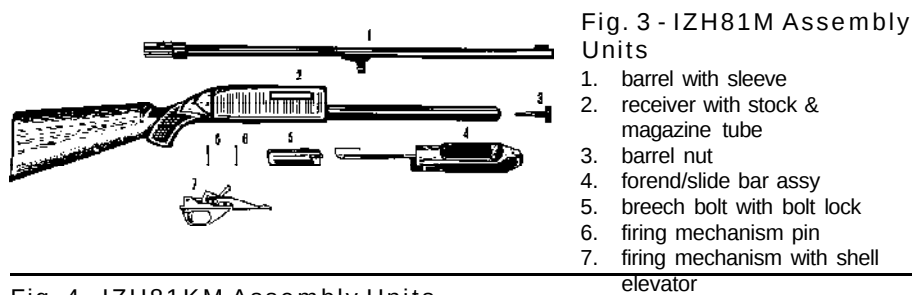

Fig. 4 - IZH81KM Assembly Units
6) Fig 4: Insert five or less cartridges into the magazine.